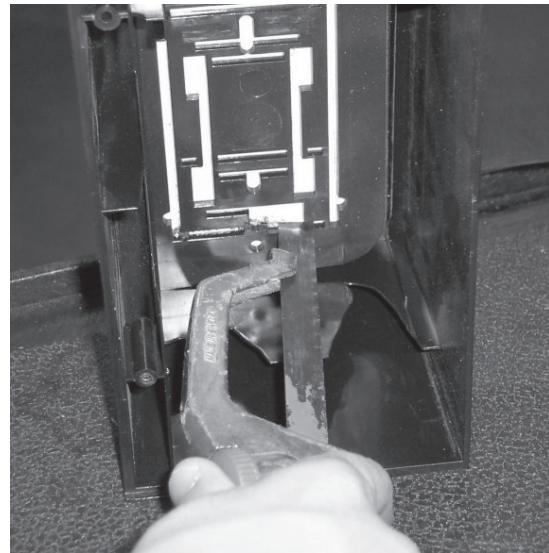

fig.37
- cut away plastic door joints by means of an hacksaw (fig.37)